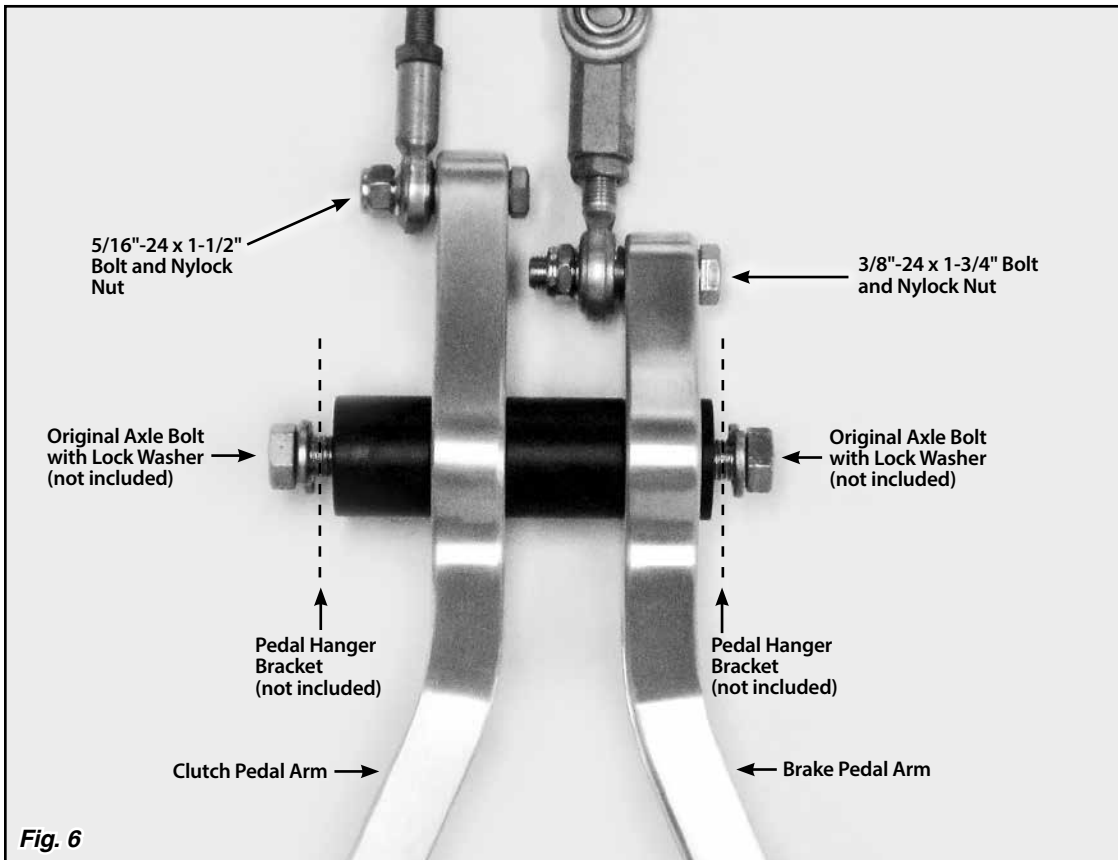

Fig. 6
- Step 5:** Connect the rod ends (not included) to the Brake and Clutch Pedal Arms. The Brake Pedal Arm uses the supplied 3/8"-24 x 1-3/4" bolt and nylock nut. The Clutch Pedal Arm uses the supplied 5/16"-24 x 1-1/2" bolt and nylock nut. **Fig. 6** Before tightening the nuts, adjust the Brake and Clutch Pedal Arms to the desired height. This can be done by turning the rod ends in or out. Tighten the nuts after the adjustments are finished.